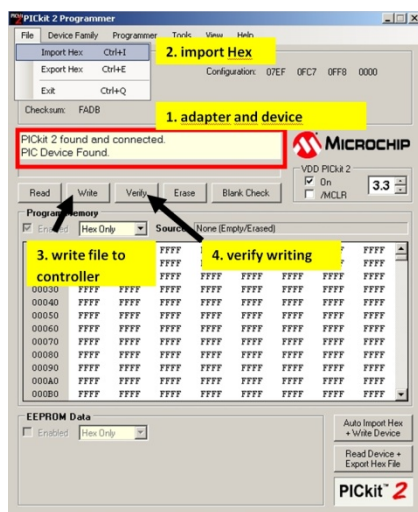

Figure 11: PicKit2 user interface for software update of SMP controller.
1. Start the previously installed PICkit Software. The program detects the PICkit and the connected controller automatically, see Figure 11. If the controller is not found, go to "Tools" and enable "Fast Programming". Then go to Tools -> Check Communication. Make sure device type PIC18F_J is identified.